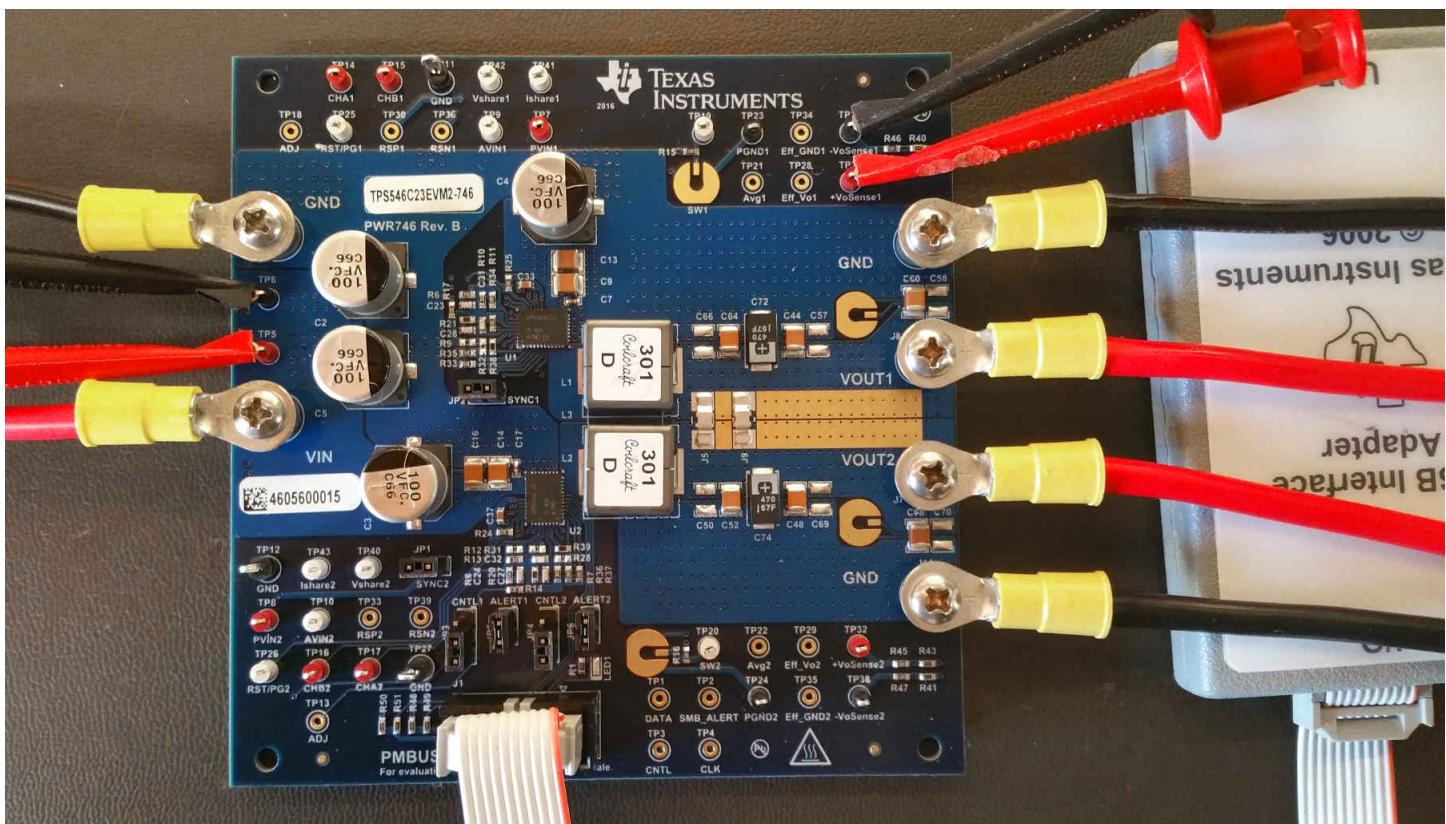

Figure 4-1. TPS546C23EVM2-746 EVM Recommended Test Setup
(1) The output current I_{OUT} can be up to 80 A, if the output overcurrent limit ($I_{OUT_OC_FAULT_LIMIT}$) is set to 45 A.
(2) The efficiency is measured based on Figure 4-1 and test setups, which includes power loss caused by on board copper traces.
The input voltage source V_{IN} should be a 0-V to 20-V variable DC source capable of supplying 20 A_{DC}. Connect input VIN and GND to J2 and J3 as shown in Figure 4-1.
It is recommended to use two separate multi-meters as shown in Figure 4-1: one meter to measure V_{IN} , the other to measure V_{OUT} .
A variable electronic load is recommended for the test setup as shown in Figure 4-1. The load should be capable of 80 A.
Figure 4-1 shows the recommended test setup.